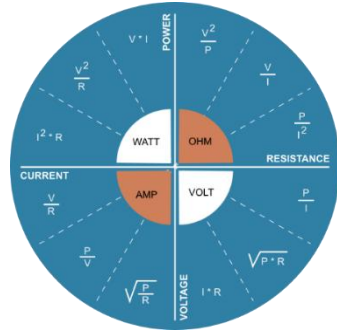

Figure 1.8.2.1:
Electric power is defined as the rate at which the electrical energy is transferred by an electrical appliance per unit of time. It is denoted by P . Electric power is commonly produced by electric generators and supplied by sources like electric batteries. Figure 1.8.2.1 shows the relationship between electric power (P), electric current (I), voltage (V) and resistance (R).